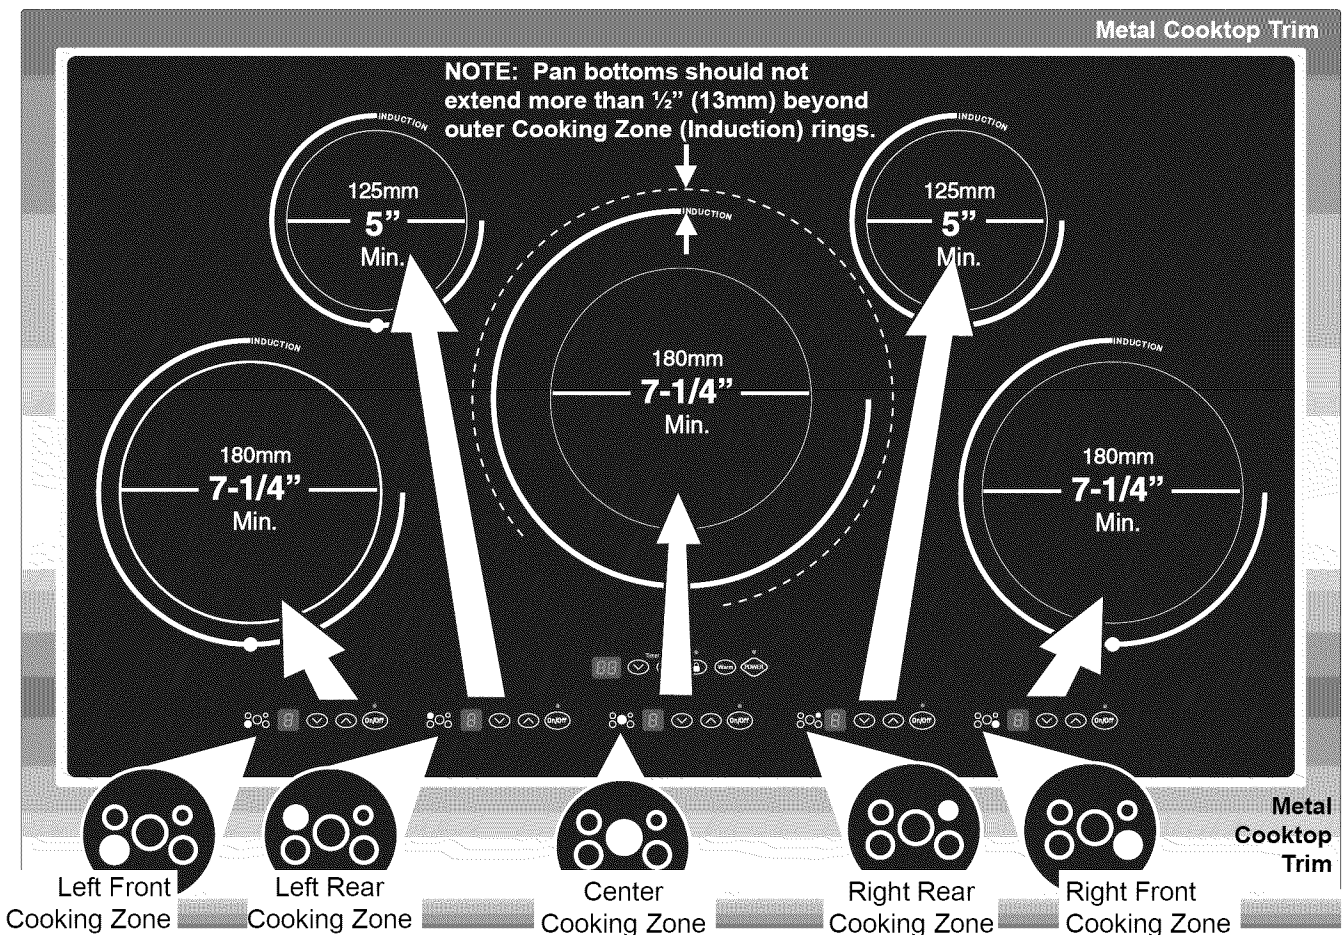

Fig. 19
USE THE CORRECT SIZE COOKWARE - The 5 Cooking Zones available on the Induction Cooktop require a **MINIMUM** pan size to be used at each location (Fig. 19). The inner ring of each Cooking Zone is your guide to the correct **MINIMUM** pan size. The pan bottom must **FULLY** cover the inner ring for proper cooking to occur.
The thicker outer ring at each Cooking Zone is helpful to determine the pan **MAXIMUM** size. After centering the cookware on the cooktop, make sure the cookware does not extend more than 1/2" beyond the thicker line on the Cooking Zone (See example in Fig. 19). The pan must make **FULL** contact on the glass surface without the bottom of the pan touching the metal cooktop trims (Shown in Fig. 19); otherwise, the pan may not heat.
- Pan does not meet the minimum size required for the Cooking Zone used (See Fig. 19).
- Pan size meets or exceeds the recommended minimum size for the Cooking Zone (See Fig. 19).
The Induction cooktop has five Cooking Zones designed for cookware of various sizes. Be sure to place cookware that meets the minimum and maximum pan size requirements (Fig. 19) for the Cooking Zone desired and is best for the amount of food being prepared. Place the cookware with the prepared food on the Cooking Zone **BEFORE** setting any of the Cooktop controls.